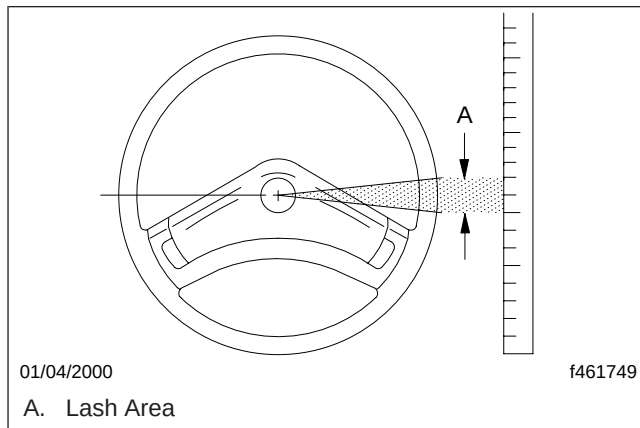

Fig. 11.3, Measuring Lash at the Steering Wheel
26. Check the steering wheel for excessive play. With the front tires straight ahead, turn the steering wheel until motion is observed at the front wheels. Align a reference mark on a ruler, then slowly turn the steering wheel in the opposite direction until motion is again detected at the wheels. Measure the lash (free play) at the rim of the steering wheel. See Fig. 11.3.